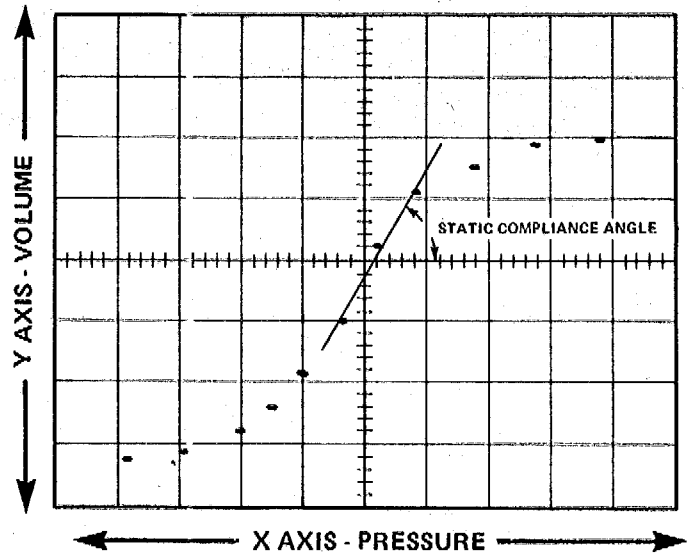

Figure 35 - Measurement of Static Compliance Angle
- i. Refer to Figure 35. Using the graticule, record the compliance angle for calculations. Photograph the trace if desired.